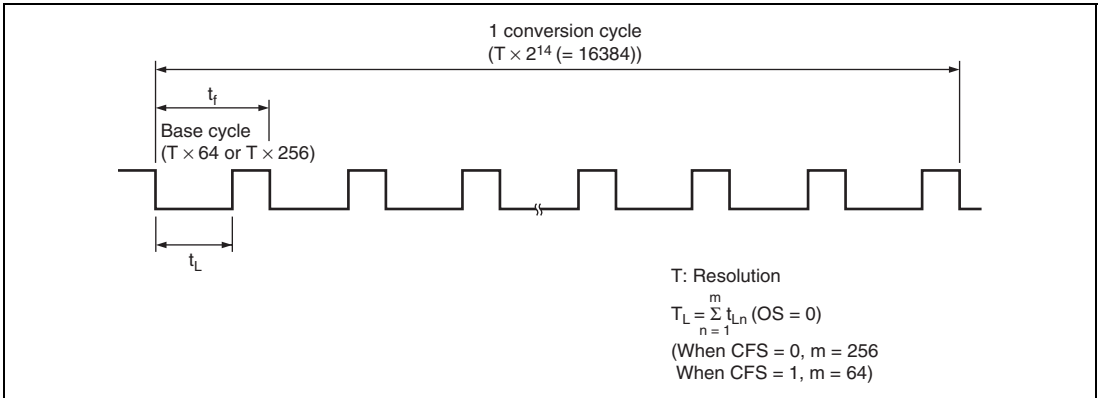
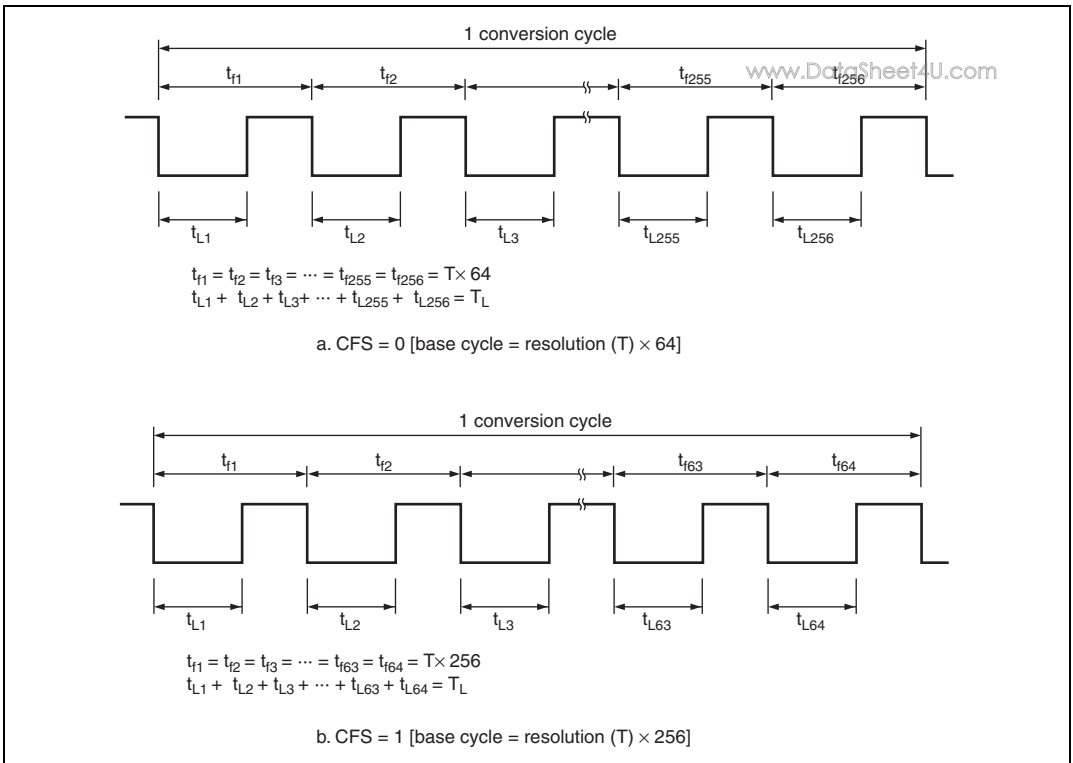

Figure 9.2 PWMX (D/A) Operation
Figure 9.3 Output Waveform (OS = 0, DADR corresponds to T_L)
A PWM waveform like the one shown in figure 9.2 is output from the PWX pin. DA13 to DA0 in DADR corresponds to the total width (T_L) of the low (0) pulses output in one conversion cycle (256 pulses when CFS = 0, 64 pulses when CFS = 1). When OS = 0, this waveform is directly output. When OS = 1, the output waveform is inverted, and DA13 to DA0 in DADR value corresponds to the total width (T_H) of the high (1) output pulses. Figures 9.3 and 9.4 show the types of waveform output available.
Table 9.3 summarizes the relationships between the CKS and CFS bit settings and the resolution, base cycle, and conversion cycle. The PWM output remains fixed unless DA13 to DA0 in DADR contain at least a certain minimum value. The relationship between the OS bit and the output waveform is shown in figures 9.3 and 9.4.